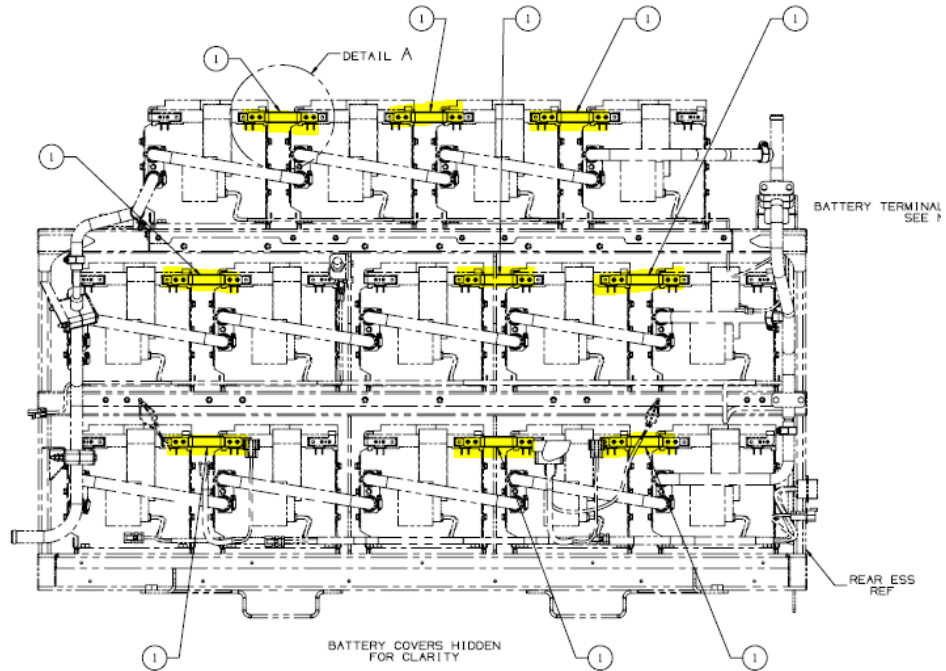

Figure 12: Rear ESS Enclosure Battery Busbar's
3.4 Verify all busbar to battery connections highlighted in figure 12 below are torqued to 80 INCH-LBS.